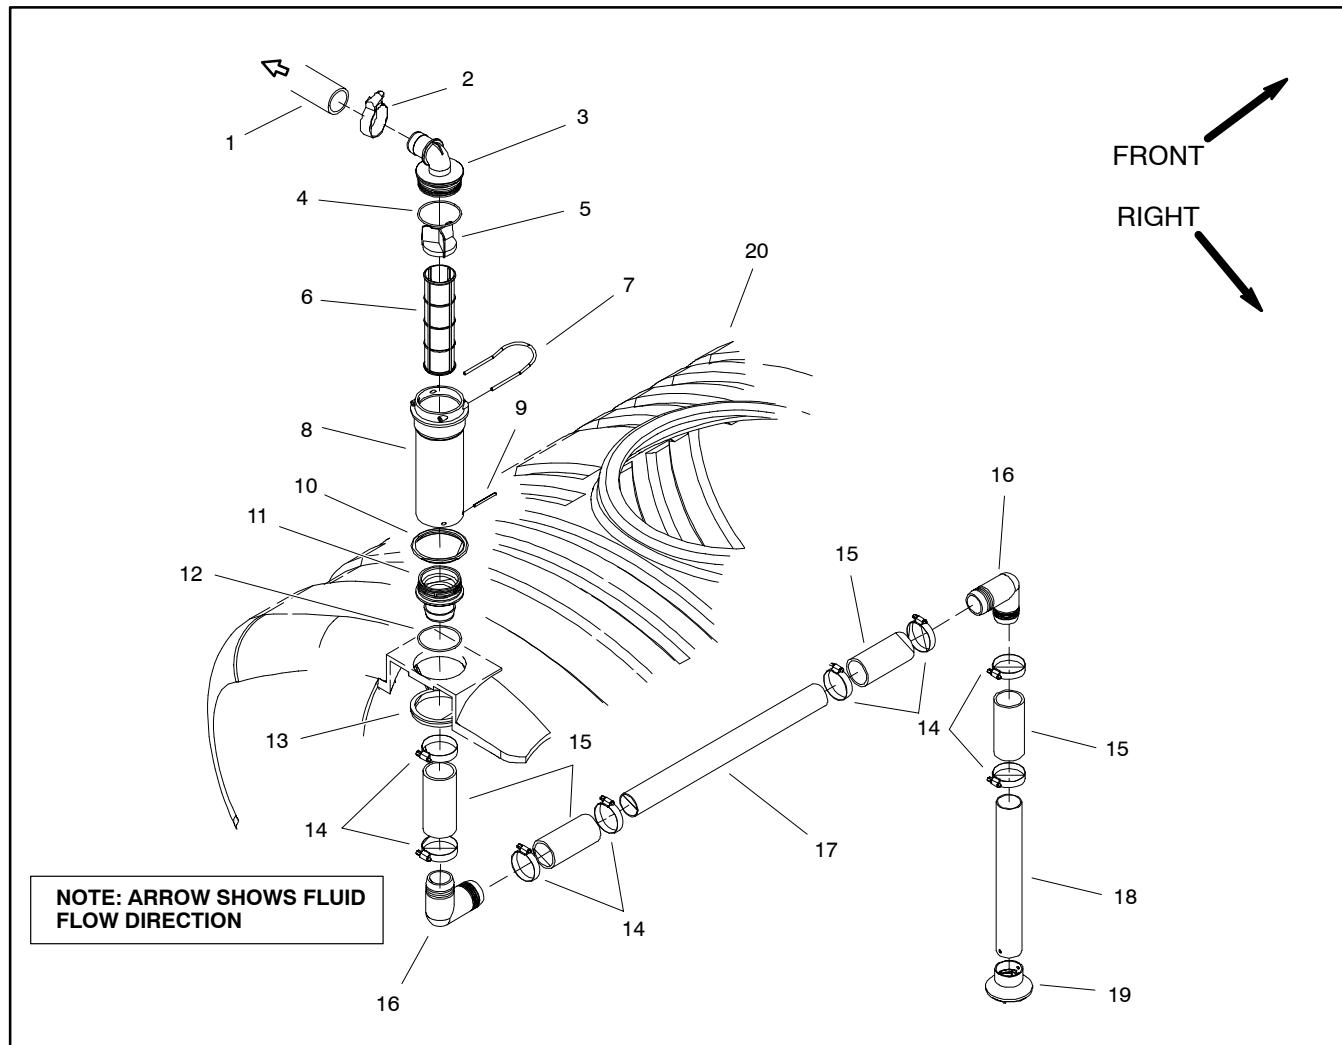

Figure 31
#### Removal (Fig. 31)
#### Assembly (Fig. 31)
1. Assemble and install suction tube assembly using Figure 31 as a guide. Replace all removed o-rings and gaskets.